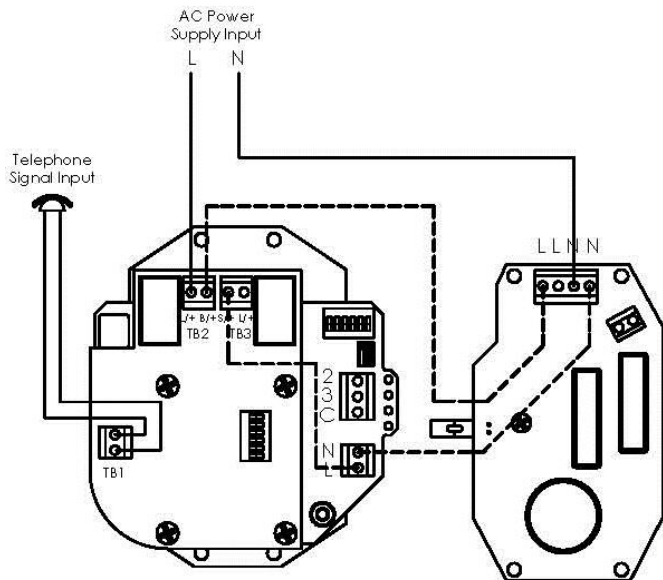

Fig 4 BExCTS110-05D AC Wiring Diagram
Four connections must be made to the BExCTS110-05D AC unit. A power supply input cable should enter the enclosure via one of the M20 entries and a telephone signal cable should enter through the other M20 entry. Connect the power input (L) to the telephone board (L/+) terminal in the sounder section & power input (N) to the beacon board (N) terminal in the beacon section. Connect the telephone signal input to (TB1) on the telephone board in the sounder section. See Figure 4